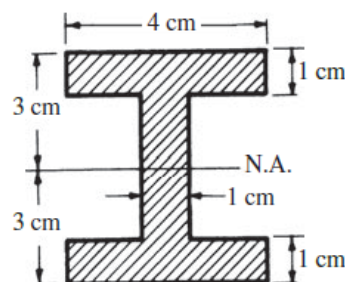

Figure 3(b)/Rajah 3(b)
- (b) A steel cantilever beam 6m in length is subjected to a concentrated load of 1200 N acting at the free end of the bar. The beam with cross section shown Figure 3(b). *Rasuk julur yang mempunyai panjang rasuk 6m dikenakan beban 1200N di hujung beam yang bebas. Keratan rentas di tunjukkan seperti Rajah 3(b)*